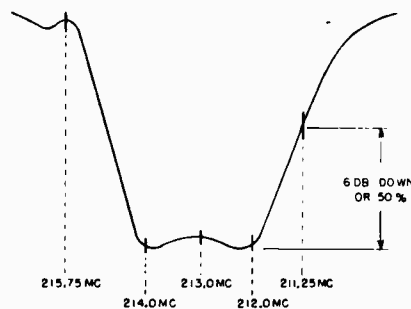

Fig. 9 RF Response Curve
11. Adjusting T100 on the tuner for maximum amplitude of the response curve and the bottom adjustment of Z300 to correct the tilt, the curve and marker points should be as shown in Fig. 9. The bottom adjustment of Z300 is made correctly when the response curve rocks about the center frequency of 213 mc.
The top adjustment of Z300 is the accompanying sound trap (41.25 mc) and should be adjusted to fall as shown in the response curve (Fig. 9) at 215.75 mc. After adjusting the 41.25 mc trap it may be necessary to retouch the bottom adjustment of Z300.